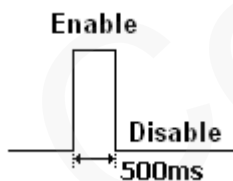
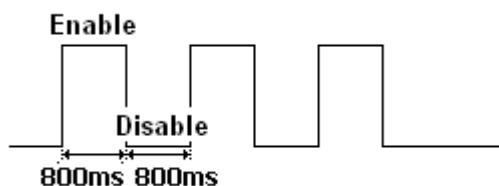
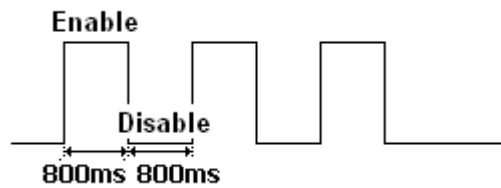

Figure 3: Wave Shape 2
Figure 4: Wave Shape 3
Figure 5: Wave Shape 4
- ✧ **<Duration>**: Please refer to **Figure 2**, **Figure 3**, **Figure 4** and **Figure 5**. Unit: 100ms.
- ✧ **<Toggle Times>**: Please refer to **Figure 2**, **Figure 3**, **Figure 4** and **Figure 5**.